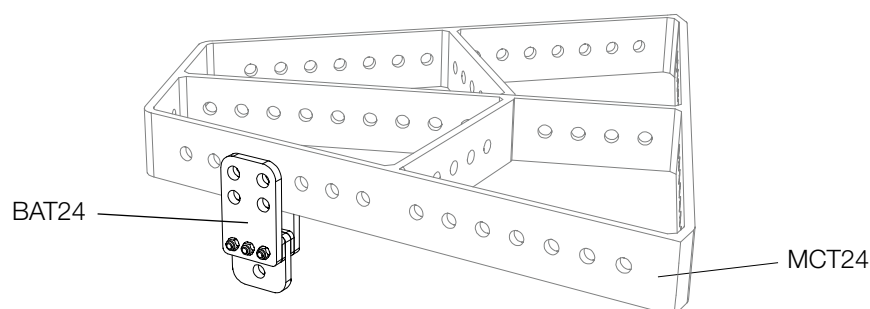

Figure 3.15.1 - Insertion of the BAT24 adapter
Place the MCT24 main-cradle-frame on a non-slip surface. Then insert the pre-mounted lower part (see assembly instructions BAT24, figure 2.1 - pos.5) of the BAT24 adapter from below to one of the side beams of the MCT24 main-cradle-frame as shown in figure 3.15.1.